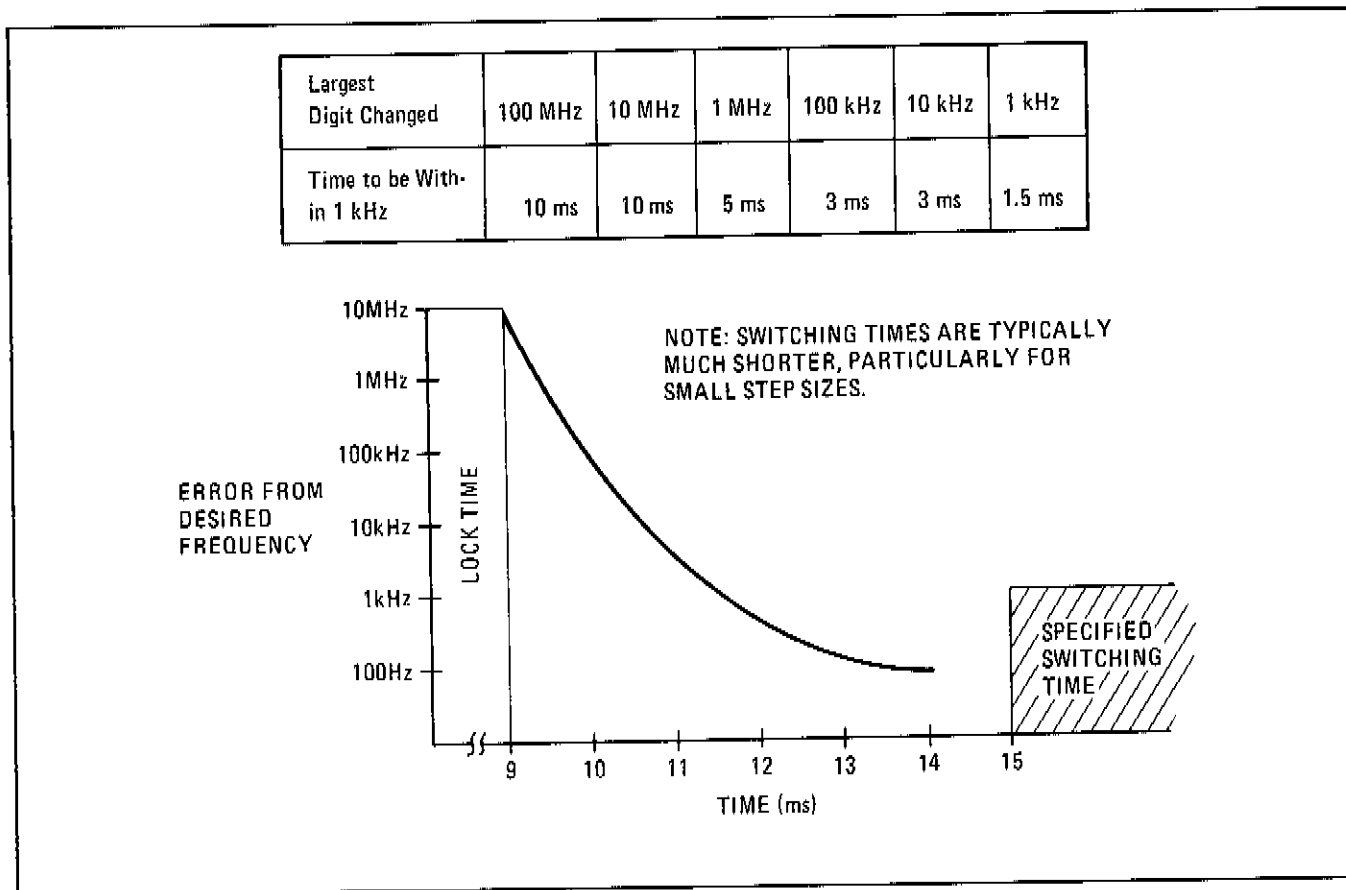

Figure 3-5. Typical Frequency Switching Time for the 8671A Synthesizer Showing Worst Case Lock and Settling Times
a. **Frequency Switching.** The time it takes to switch from one frequency to the next depends on the largest frequency digit being changed. Generally, the smaller the digit being changed the shorter the switching time. Typical worst case frequency lock and setting times are shown in Figure 3-5. If FM is on during frequency change, switching time will increase.